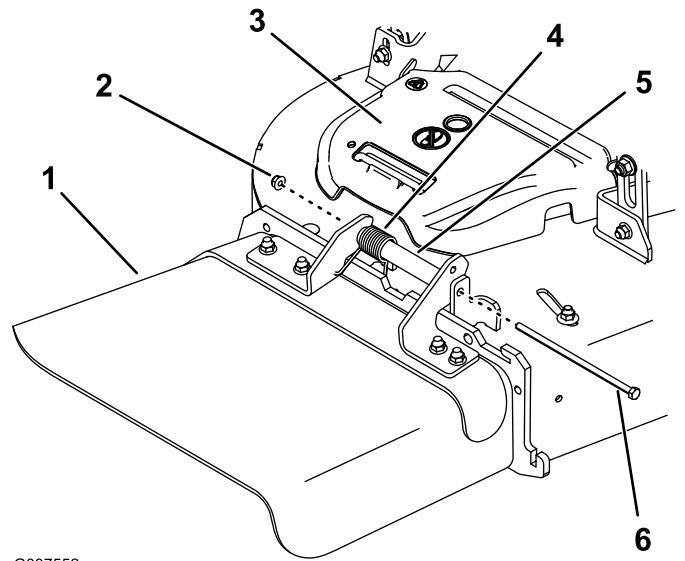

Figure 1
1. Remove the bolt (5/16 x 7-1/2 inches) and nut (5/16 inch) securing the discharge chute to the deck. Remove the chute, spring, and spacer (Figure 1).
2. Remove the belt cover (Figure 1).